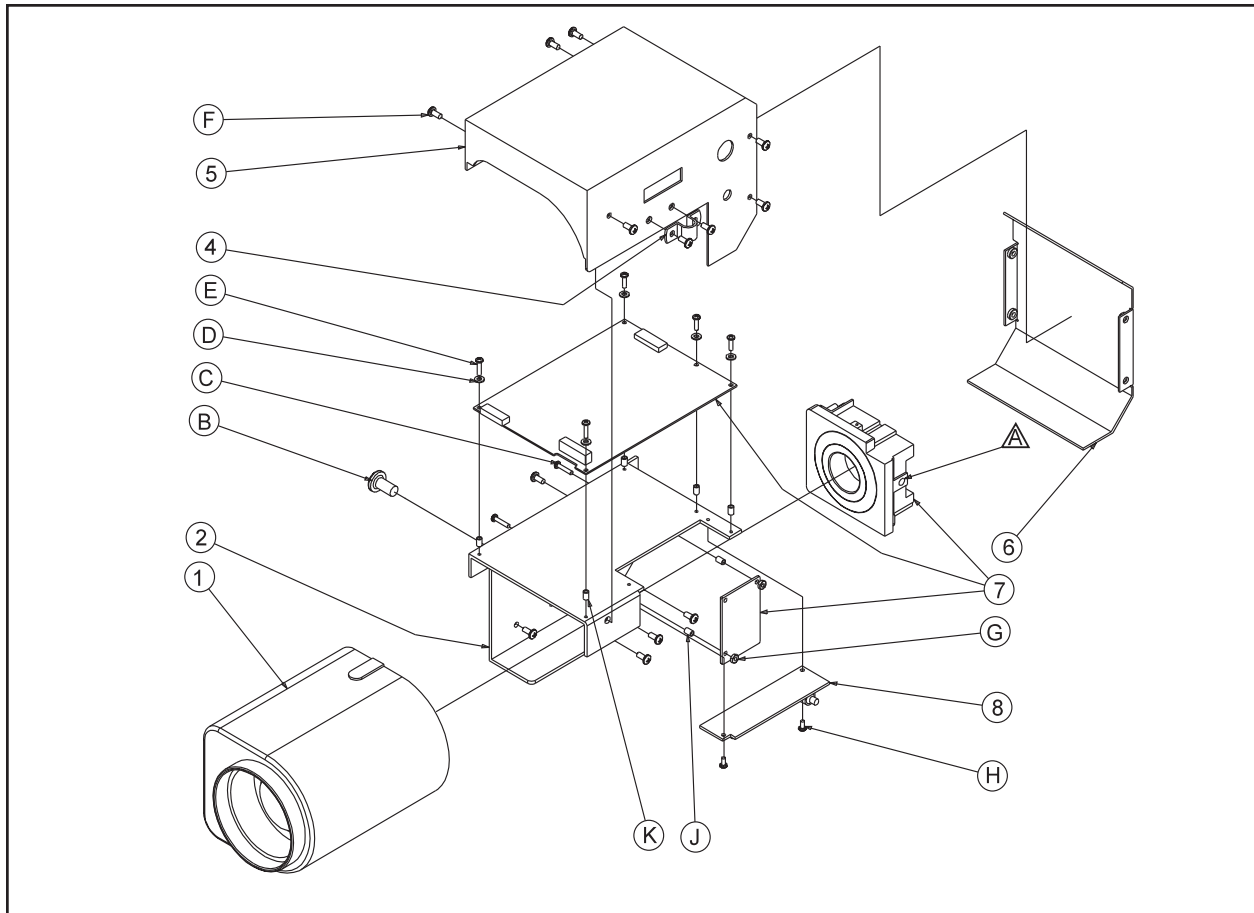

Figure 7. TVH10 Camera/Lens Combination Exploded Assembly Drawing
8.1 MECHANICAL PARTS LIST (Figure 7)